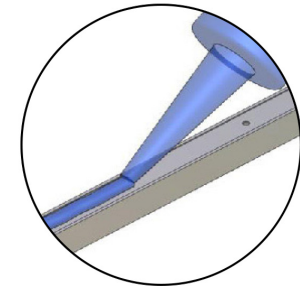
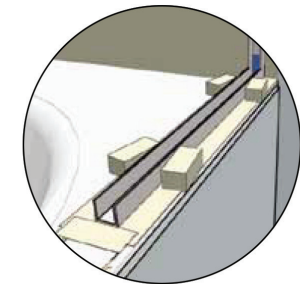
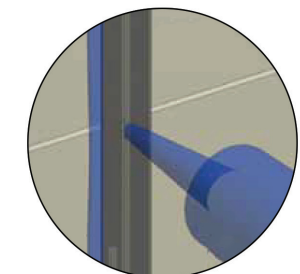

FIG 2.
FIG 3.
FIG 4.
- Clean underside of bottom channel and bath surface with a dry rag and run a thick bead of silicone along underside of bottom channel (FIG 2).
- Place bottom channel into position and press firmly (FIG 3). Bottom channel does not require screw fixings. Clean and silicone wall channel as per bottom channel (FIG 2). Inject silicone into and around screw holes (FIG 3). Ensure wall channel is plumb, then screw into place (FIG 4).